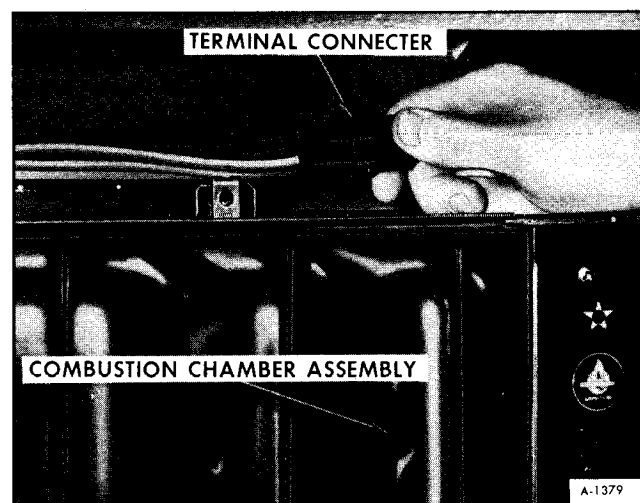

Figure 11—Furnace Thermal Connector
6. Pull chamber forward until wires can be disconnected at the terminal connector (See figure 11). Remove chamber.
1. Position rear of combustion chamber in cabinet slides, and move it partially in until the wires can be connected at the terminal connector (See figure 11). Push chamber all the way in to cabinet.